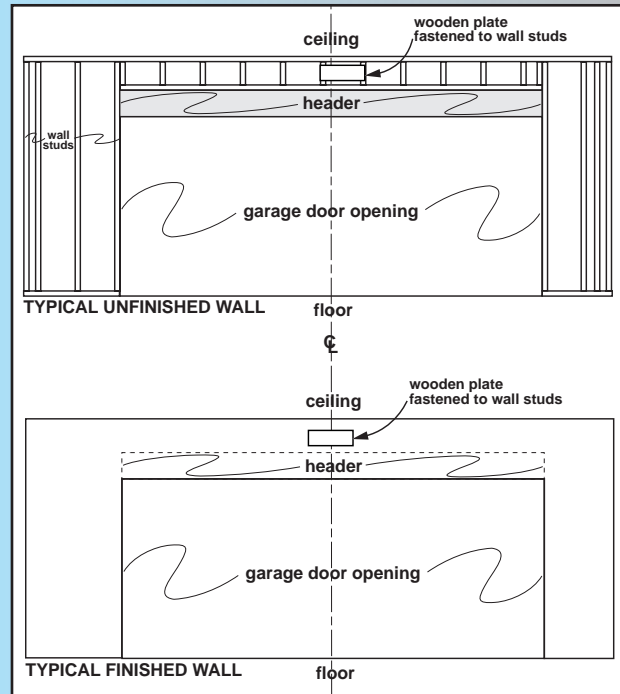
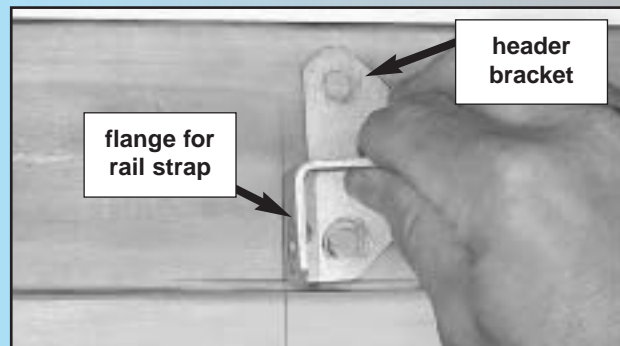

Fig. 2-5
Fig. 2-7
4. Check mounting location for strength. Header bracket must be attached to framework of garage. Fig. 2-5.
- Fig. 2-5.**
- If your marked mounting location is not solid, a mounting plate must be installed and mounting location remarked before continuing. **Fig. 2-7 and Fig. 2-5.**